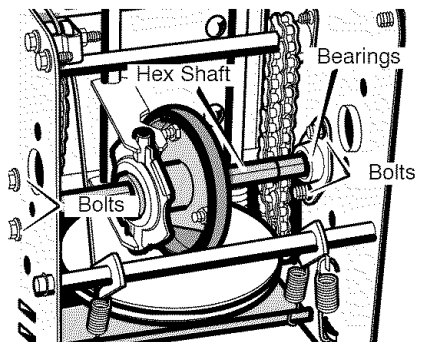

Figure 43
9. Remove the four **bolts** that hold the **bearings** on each side of the **hex shaft** (see Figure 43).